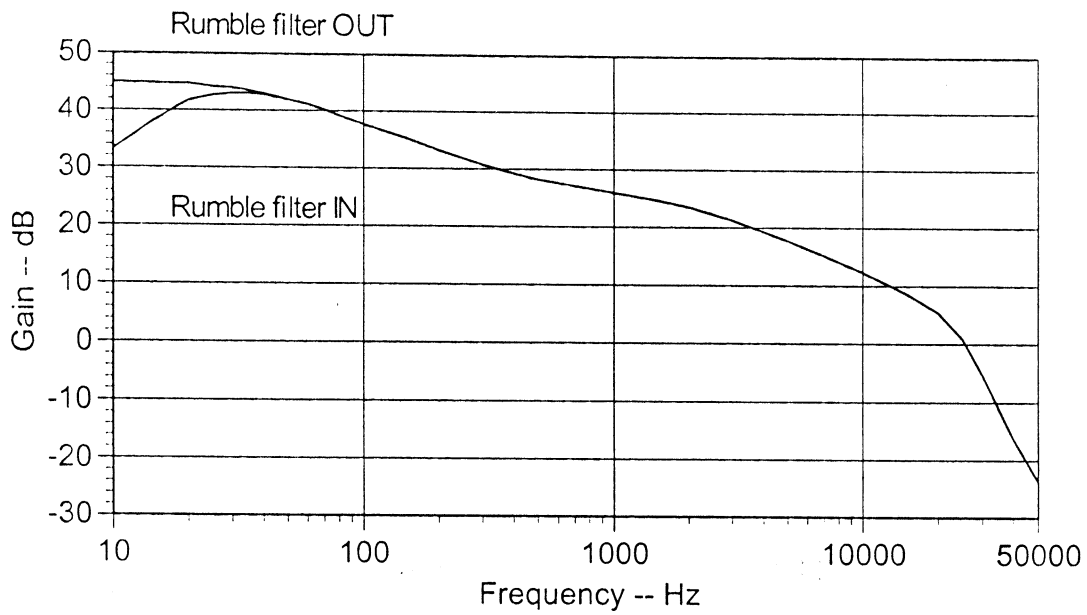

Figure 1 -- Playback RIAA response. Max gain can be set to 52, 60, 70 or 80 dB.
**RESPONSE:** Playback RIAA as shown in Figure 1. (Max gain can be set to 52, 60, 70 or 80 dB.) The rumble filters, which may be switched in and out, have corner frequencies of 20 Hz and change the response as shown. Because this preamp was designed to drive a sound card, it includes output lowpass filters with corner frequencies of 25 kHz. This causes no loss of quality because the CD sampling rate of 44.1 kHz limits the unaliased frequency response to 22 kHz.